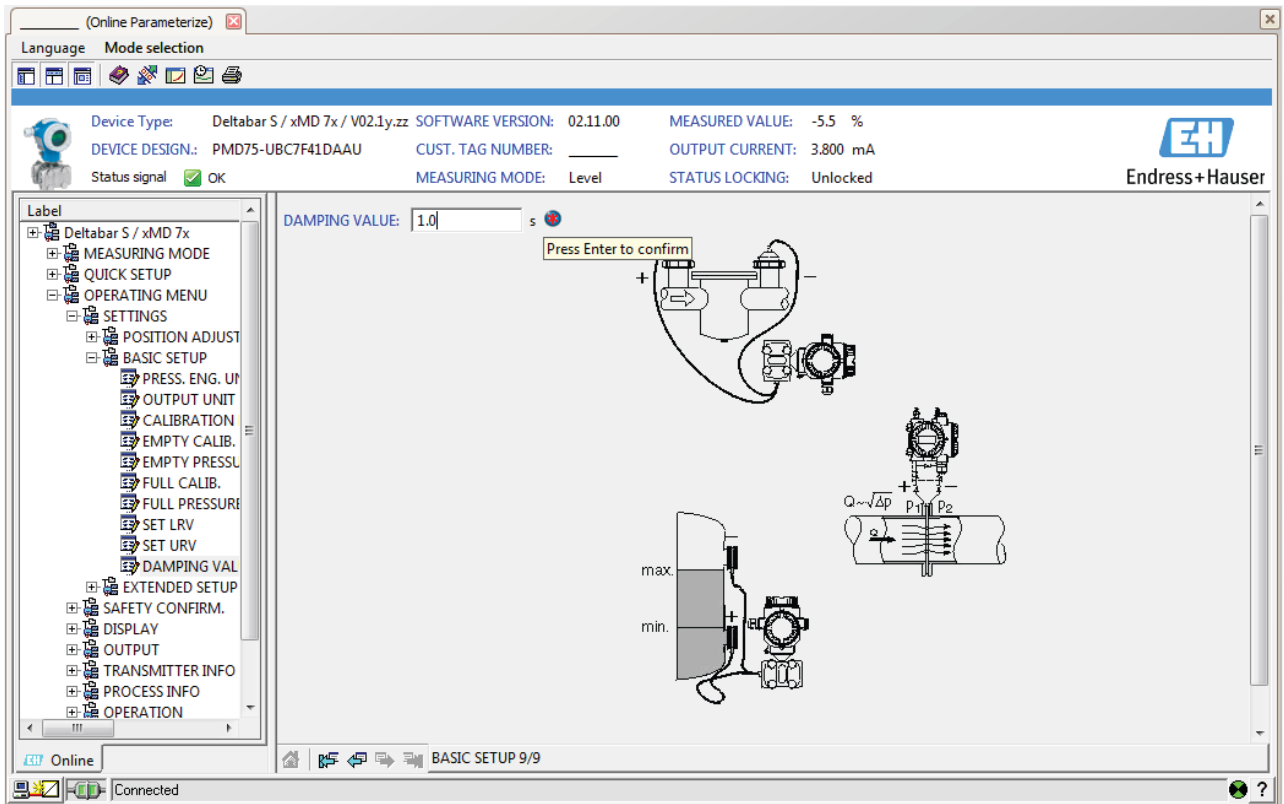

Figure 2-13. Damping value.
11. A greater damping value reduces the oscillation amplitude of the measured value. Go to **OPERATING MENU** ► **SETTINGS** ► **BASIC SETUP** ► **DAMPING VALUE**. Modify the damping value from to 1.0 s. Press **Enter** to confirm the command (Figure 2-13).